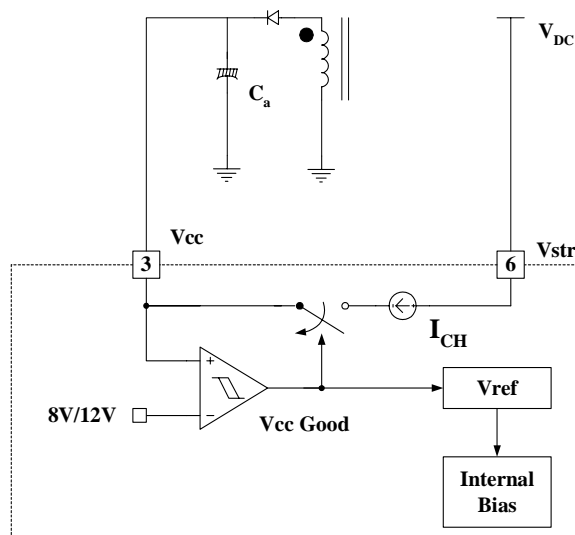

Figure 4. Internal Startup Circuit
1. Startup: In previous generations of Fairchild Power Switches (FPS™) the Vcc pin had an external start-up resistor to the DC input voltage line. In this generation the startup resistor is replaced by an internal high voltage current source. At startup, an internal high voltage current source supplies the internal bias and charges the external capacitor (C_a) that is connected to the Vcc pin as illustrated in Figure 4. When Vcc reaches 12V, the FSDM0465RB begins switching and the internal high voltage current source is disabled. Then, the FSDM0465RB continues its normal switching operation and the power is supplied from the auxiliary transformer winding unless Vcc goes below the stop voltage of 8V.